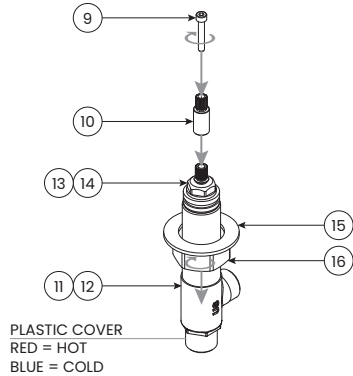

FIGURE 4.1
- 4.1 Place Broach Extension (10) directly onto the Deck Valve Cartridge (13 or 14) (Figure 4.1).
- 4.2 Insert Broach Extension Screw (9) directly into the Broach Extension and tighten with Allen Key (Figure 4.1).